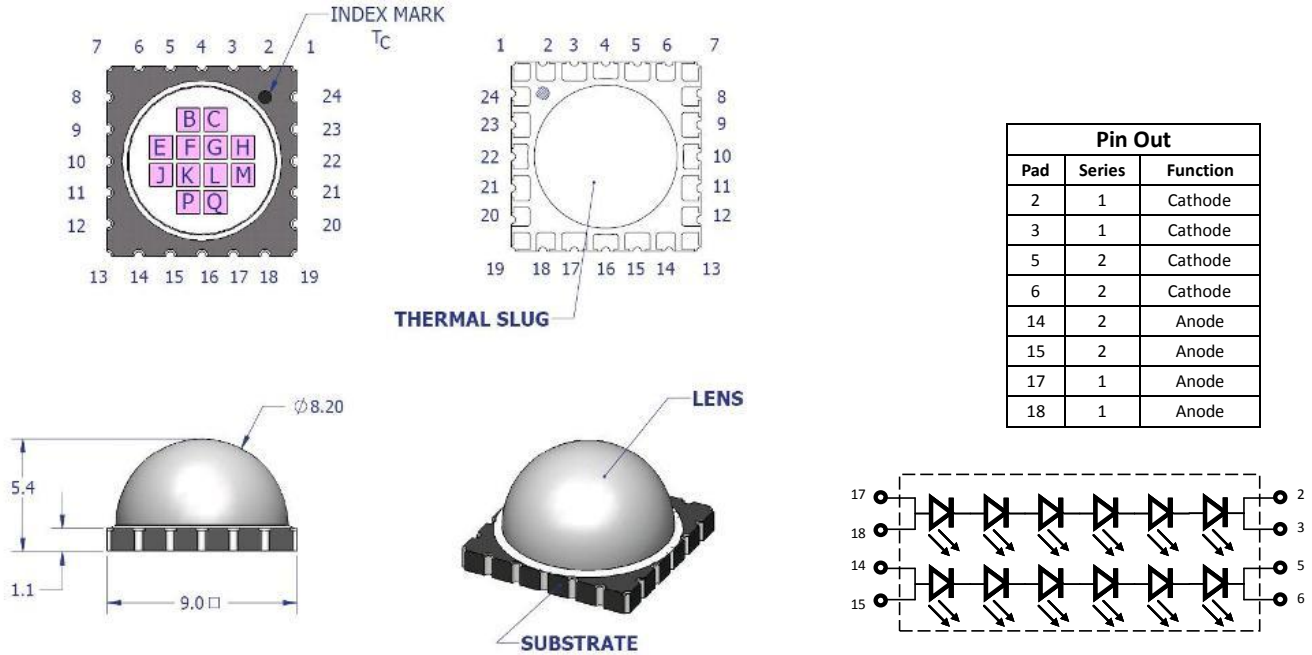

Figure 1: Package outline drawing.
Notes for Figure 1:
**Note for Figure 1:**
Note for Figure 1: